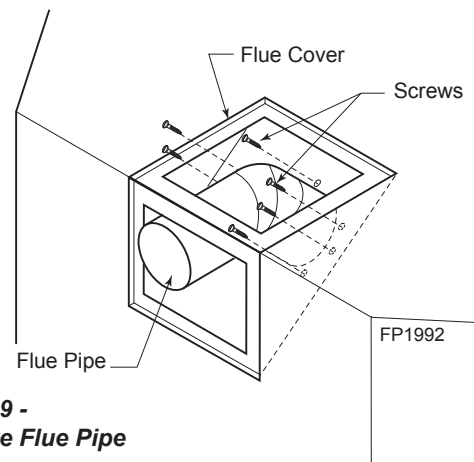

Figure 9 - Remove Flue Pipe
4. Remove the six (6) screws securing the flue pipe to the back of the intake box and remove the pipe and gasket. *Figure 9*